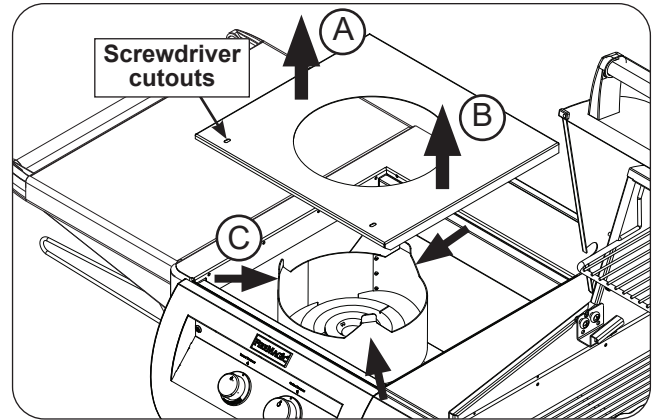

Fig. 47-1 Interior protection plate removal
2. Lift up the interior protection plate from the left side, then lift up from the right side (see Fig. 47-1, A and B).
3. While lifting the plate upward, flex the collimator inward to completely free the protection plate (see Fig. 47-1, C).